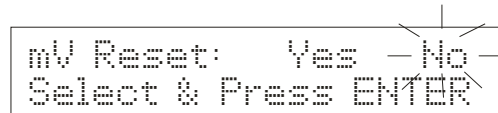

Figure 126
4. Press  $>/CAL$  key to toggle between *mV Reset: Yes* and *No*. The selection will flash. See **Figure 126**.